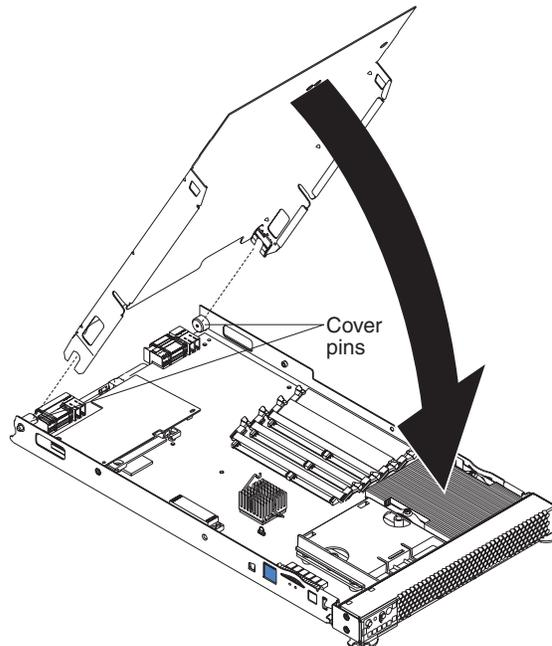

Figure 15. Closing the blade server cover
This section describes how to close the blade server cover, as illustrated in Figure 15.
3. Lower the cover so that the slots at the rear slide down onto the pins at the rear of the blade server, as shown in Figure 15 on page 35. Before closing the cover, make sure that all components are installed and seated correctly and that you have not left loose tools or parts inside the blade server.
4. Pivot the cover to the closed position as shown in Figure 15 on page 35, until it clicks into place.